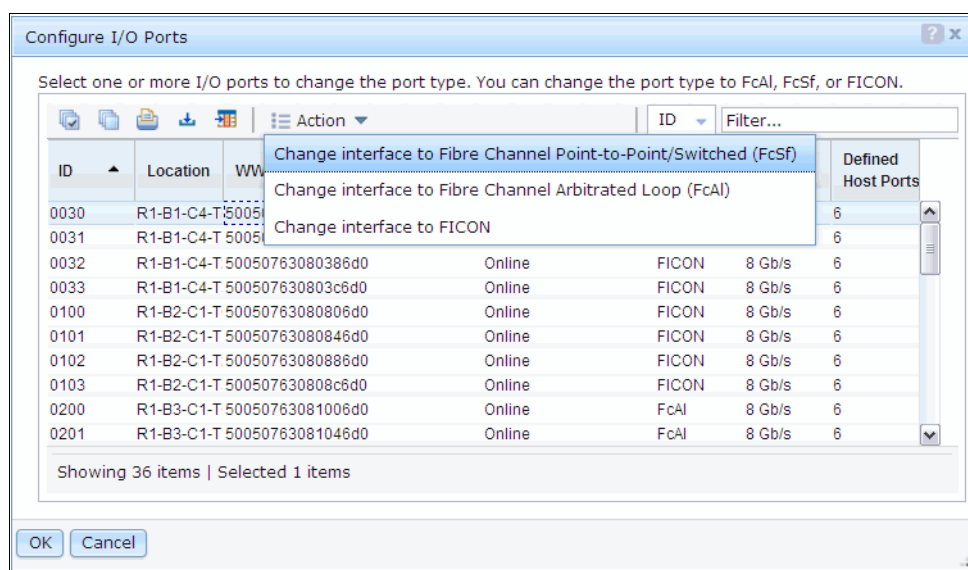

Figure 13-36 Select I/O port format
3. The Configure I/O Port window opens, as shown in Figure 13-36.